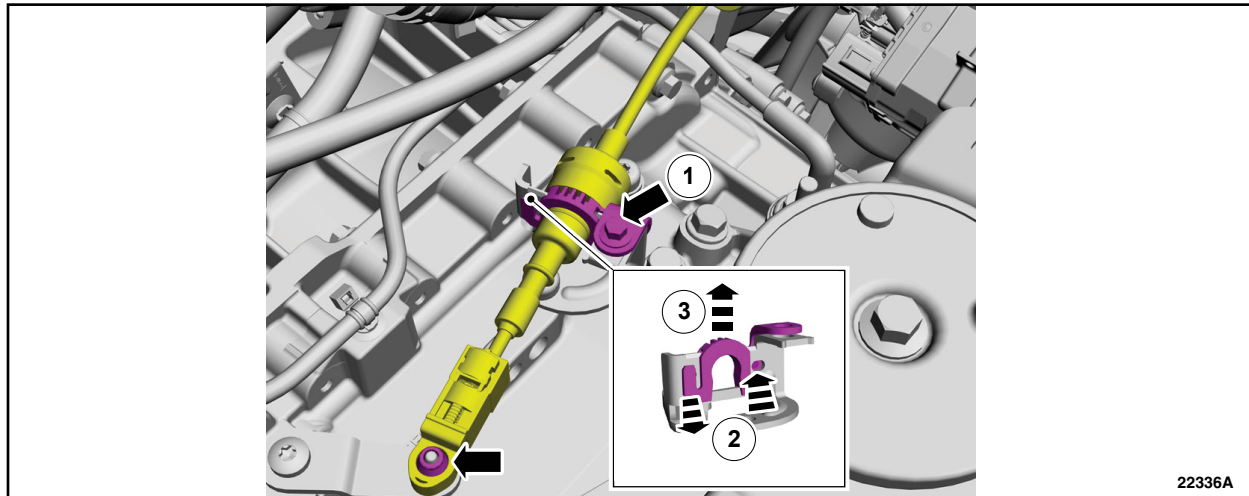

FIGURE 1
2. Position the gear shift lever in Drive (D).
5. Disconnect the selector lever cable from the transmission manual lever and the bracket. See Figure 1.